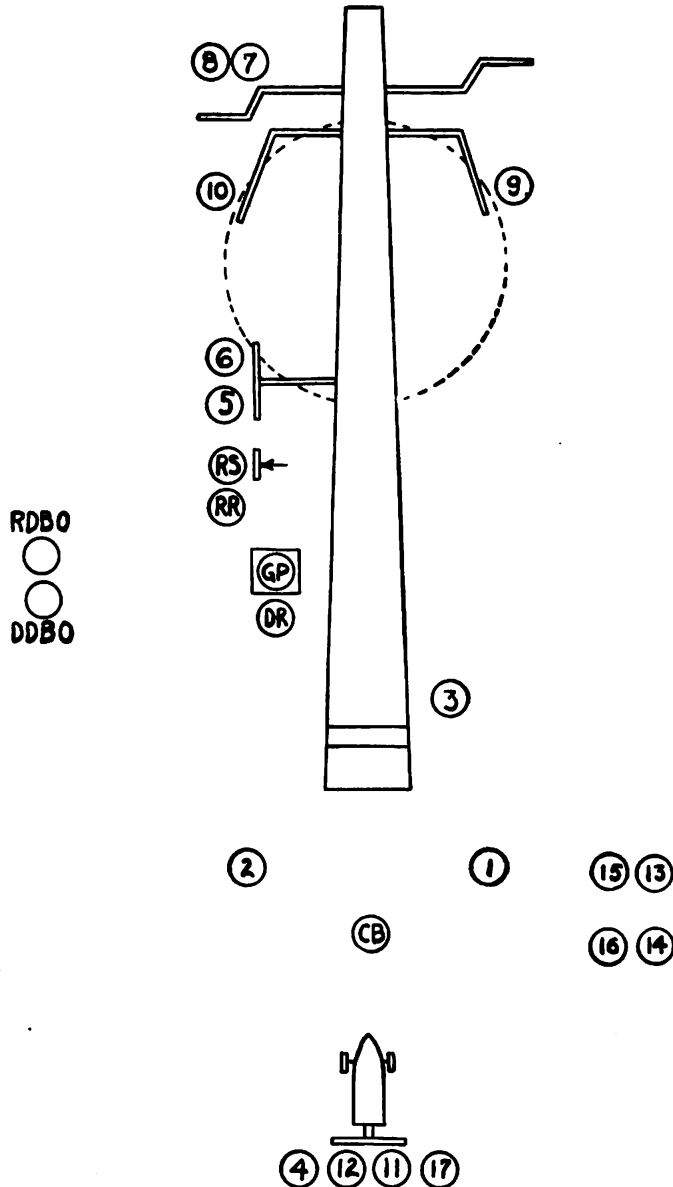

FIGURE 8.—Posts of gun squad for 10-inch gun.
Q. What are the posts of the gun squad for the 10-inch gun? A. See figure 8.